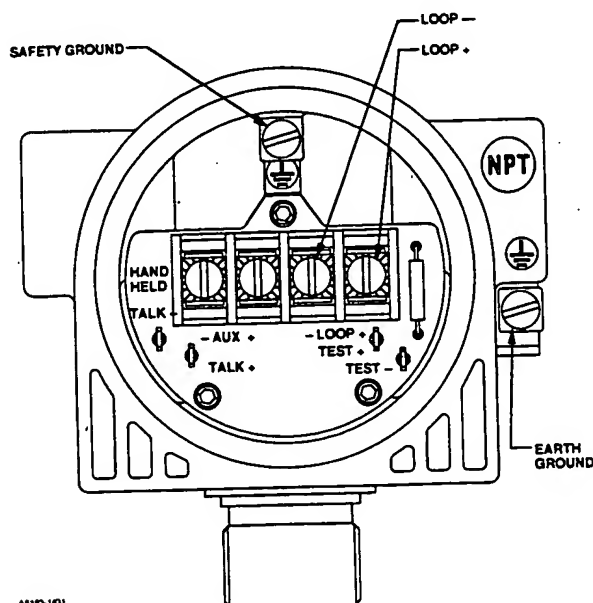

Figure 12. Type DVC5000 Series Digital Valve Controller Terminal Box
1. Remove the terminal box cap (key 4) from the terminal box (key 3).
3. Connect the positive wire from the control system output card "current output" to the "LOOP +" screw terminal on the pwb/terminal strip assembly in the terminal box. Connect the negative (or return) wire from the control system output card to the "LOOP -" screw terminal in the terminal box as shown in figure 12.
4. Connect the safety ground and the earth ground as shown in figure 12. Replace and hand tighten the cover on the terminal box. When the loop is ready for startup, apply power to the control system output card.